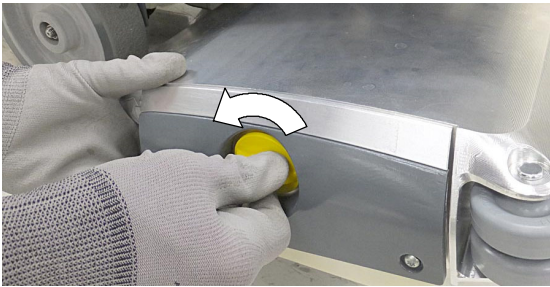

FIG. 23
3. Remove the idler plate from the scrub head by unscrewing the yellow knob (Figure 23).